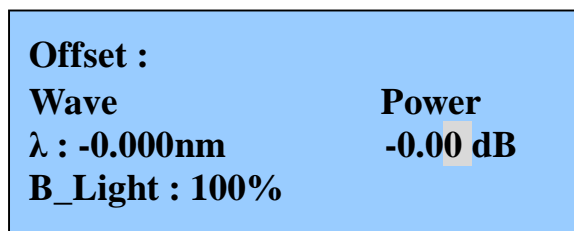

Figure 10 Set the power offset
- 3 Pressing [  $\blacktriangleleft$  ] or [  $\blacktriangleright$  ] pushbutton to move to the desired digit, as shown in Figure 10.